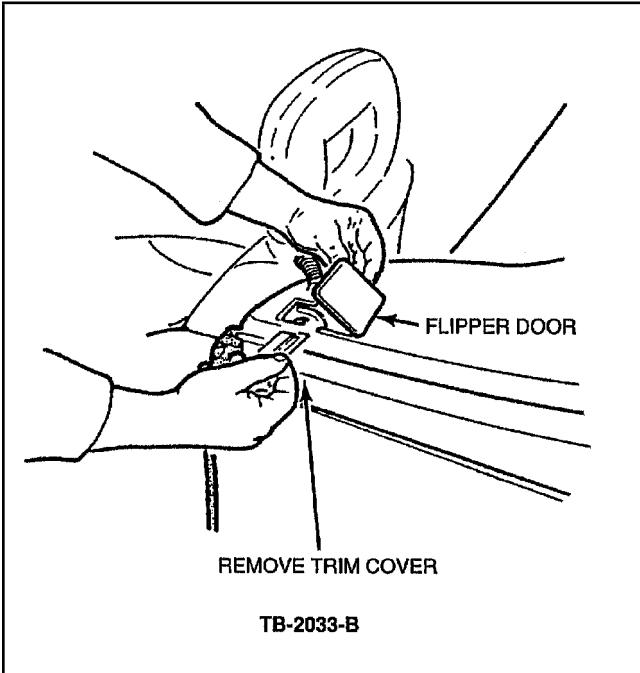

Figure 4 - Article 91-20-2
3. Remove the two sliding and one center trim covers concealing the hardtop retaining locations, Figures 4 and 5.
7. Using an M8 x 1.25 tap, remove the excess paint buildup in the threads of the three hardtop retaining locations, Figures 4 and 5.